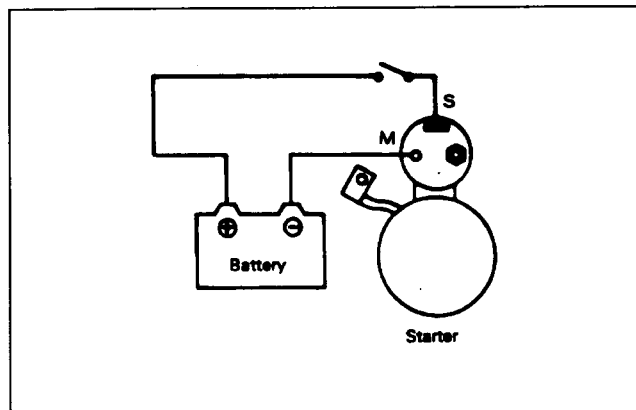

Figure 27
1. Disconnect the wire from terminal "M" (Fig. 27).